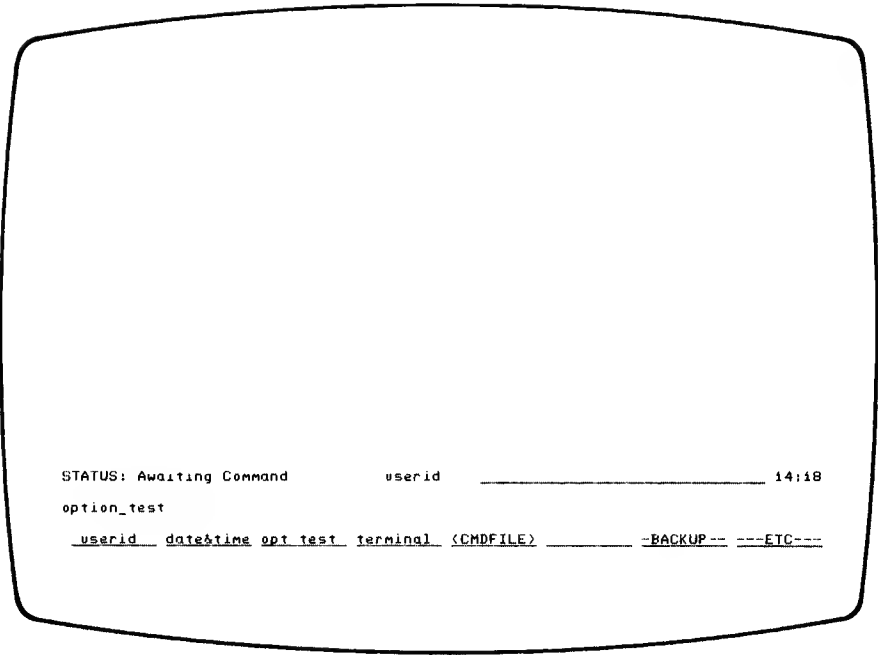

Figure 4-1. System Awaiting Command Display
- a. With the operating system initialized and awaiting a command, figure 4-1, enter: